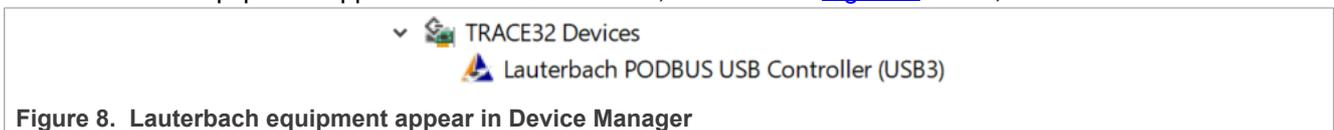

Figure 8. Lauterbach equipment appear in Device Manager
2. Connect the μ Trace for Cortex-M debugger to the personal computer through the USB cable, and then power on the debugger with a 5 V power adapter. Open Device Manager on the personal computer, and the Lauterbach equipment appears in Trace32 Devices, as shown in Figure 8. If not, check the connection.